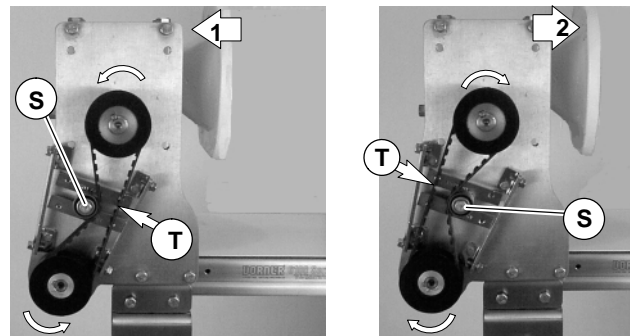

Figure 19
5. Depending on conveyor belt travel (1 or 2 of Figure 19), locate timing belt tensioner (S) as shown. Tension timing belt to obtain 3 mm deflection for 4.3 N of force at timing belt mid-point (T). Tighten tensioner to 51 Nm.